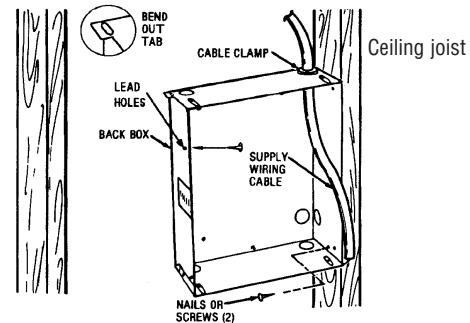

Figure 1
1. Determine which side of the back box is to be mounted against a joist and bend the tabs at the rear corners out 90 degrees so that the back box will be square with the joist after installation. (See Figure 1).
3. Position back box against side of joist and secure using nails or screws as shown in Figure 1.
NOTE: Lead holes for a #8 sheet metal screw have been provided in the sides of the back box. After the finished ceiling has been put up, drive a # 8(m4) sheet metal screw (recommended 1") through the side of the box not mounted to the joist. This will prevent the back box from pulling out when installing the heater assembly. (See Figure 1)